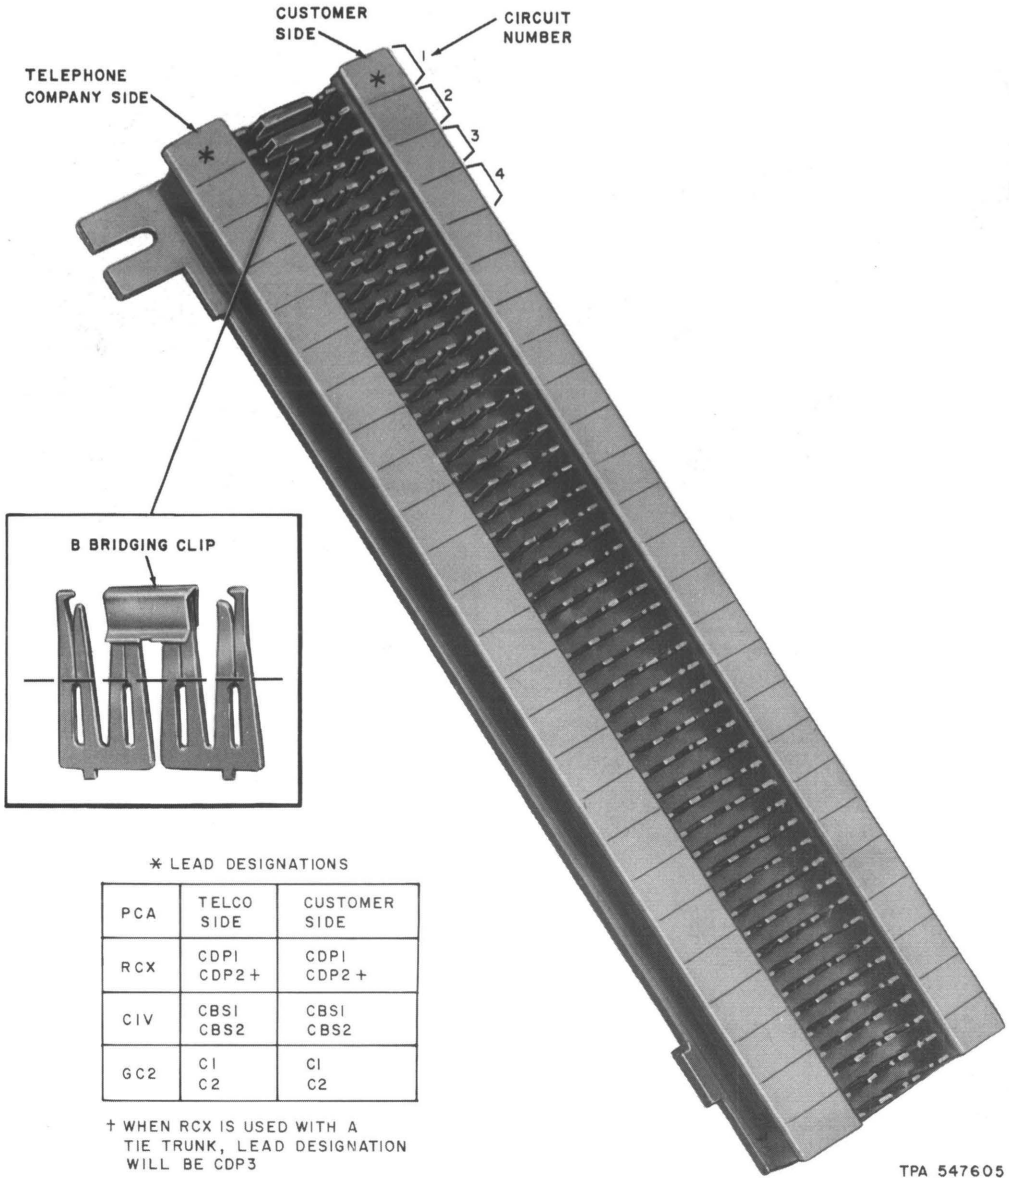

Fig. 2—66M1-50 Interface Connecting Block
- Block, Connecting, 66M1-50 (Fig. 2)